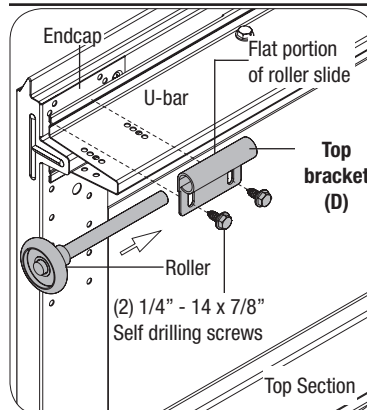

FIG. 4.7
Vertically align the flat portion of roller slide with the endcap and u-bar at the top of top section. Fasten roller slide using (2) 1/4" - 14 x 7/8" self drilling screws, as shown in **FIG. 4.7**. Repeat the same process for the other side.